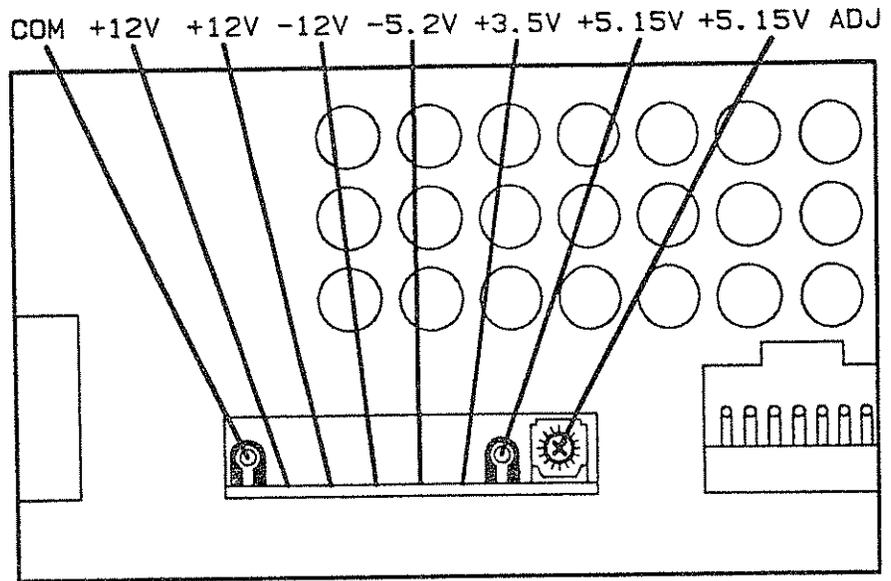

Figure 2-24. A5 Power Supply Test Points
7. Measure the power supply voltages on the A5 Power Supply next to where W27 connects to the power supply. See figure 2-24.
8. If all power supply voltages are as shown in figure 2-24, continue with the next step. If any of the voltages are not as shown, replace the A5 Power Supply.